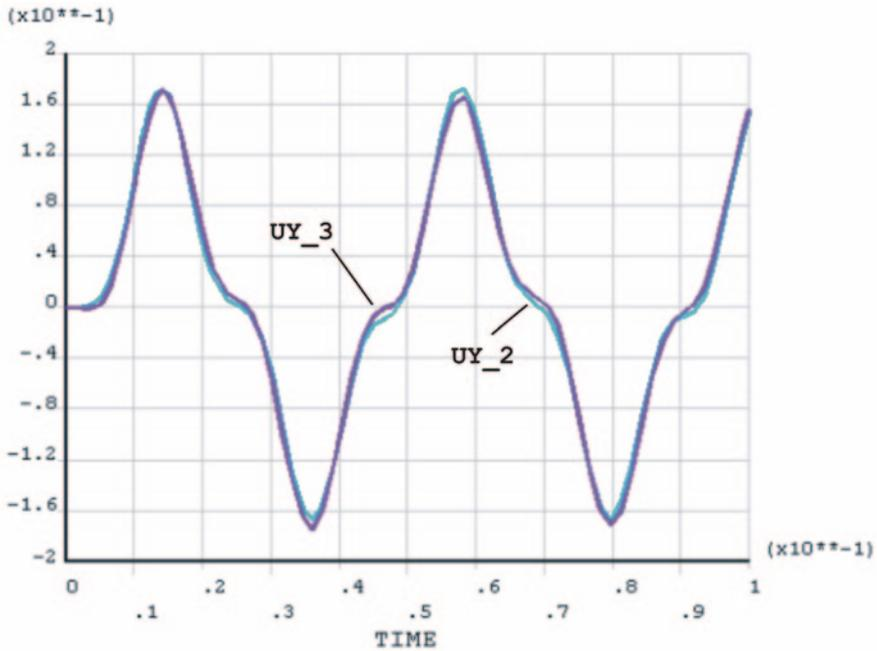

Fig. 8.95 Time variation of displacements in the y -direction at two locations
- The plot appears in the *Graphics Window*, as shown in Fig. 8.95.